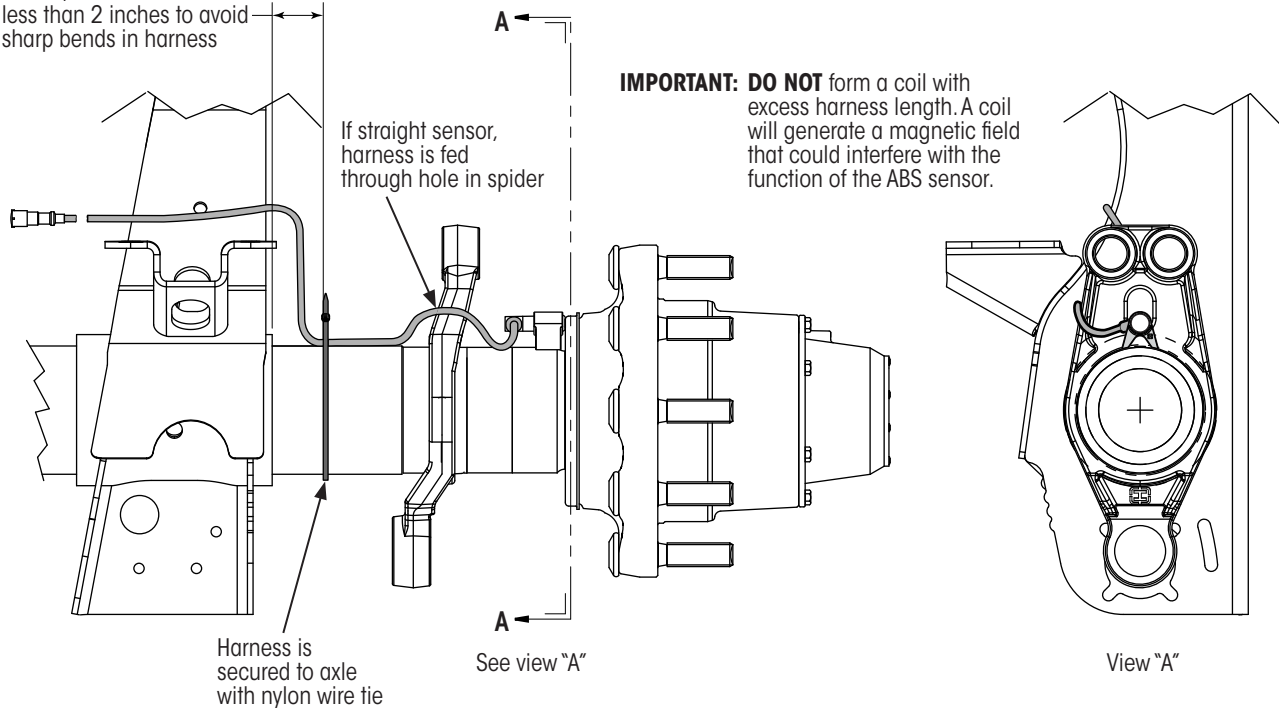

Figure 40: ABS Sensor wiring harness installation details
- A. If 90° sensor, **fed around** spider (Figure 40).
- B. If straight sensor, **fed through** the hole in the spider (Figure 40).
- C. **Fastened securely** to the axle between the beam and the spider (Figure 40) with a nylon wire tie.